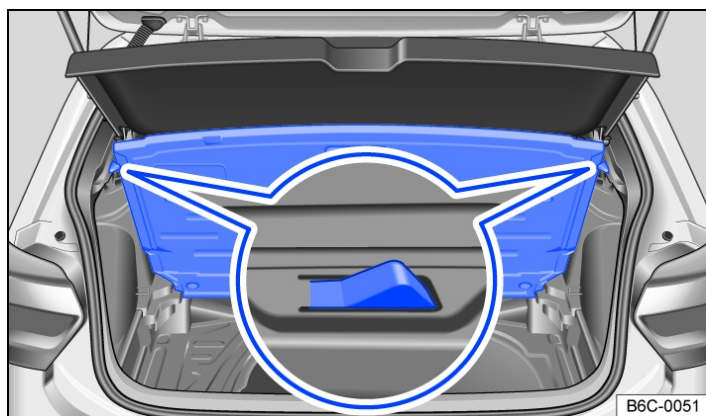

Fig. 2 In the luggage compartment: locking the variable luggage compartment floor in position.
- To lock in position, lift up the variable luggage compartment floor until it is held in position by the side restraints → *Fig. 2* (close-up).